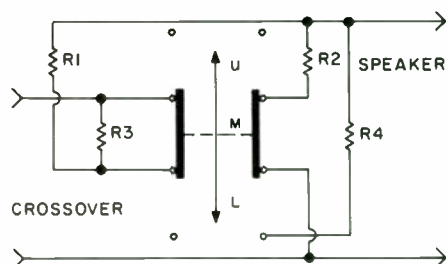

FIGURE 1: This three-position L-pad attenuator is simple and inexpensive.
The attenuator is wired as shown in Fig. 1. In the upper (U) position, the